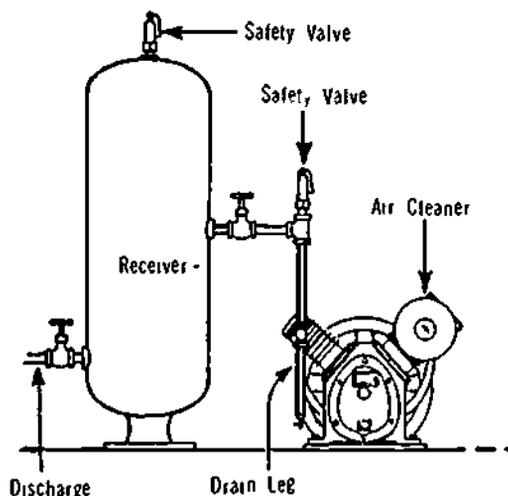

Figure 32-6. Typical Overhead Piping Arrangement for Base or Sub-Base Mounted Units
If a compressed-air tank or receiver is part of the system, run the piping down from the compressor discharge to permit condensate to drain into the receiver. If this is not possible, install a drain leg similar to the one illustrated in Figure 32-6. If the air system is large enough in volume so that an air receiver is not needed, a condensate leg with drain valve should be placed in the piping at a joint as far from the compressor as possible and just ahead of the point at which the air is used. The leg should be kept drained by a drain cock, and all the piping should slope toward it. Water in compressed air will cause operating difficulties. Large amounts will cause "water hammer" in pipe lines and reduce the capacity of the lines; it washes away lubricants in pneumatic tools and produces internal corrosion. Oil that is also carried along in suspension with the water must also be removed from the system via the leg drains, or receiver. The drain leg should project down from the compressor discharge and be at least 250 mm. The drain valve installed at the end of the leg should be opened at least weekly under normal operating conditions, and more often in a wet, humid climate.
9. **WARNING!** Never install a shut-off valve (such as a gate or globe valve) between the compressor and the receiver unless a safety valve is put in the piping between the valve and the compressor. (See Figure 32-6.) Safety valves are normally set to release 70 kPa above operating. Safety valves must never be replaced by plugs even for short periods. Figure 32-6 shows a typical overhead installation.